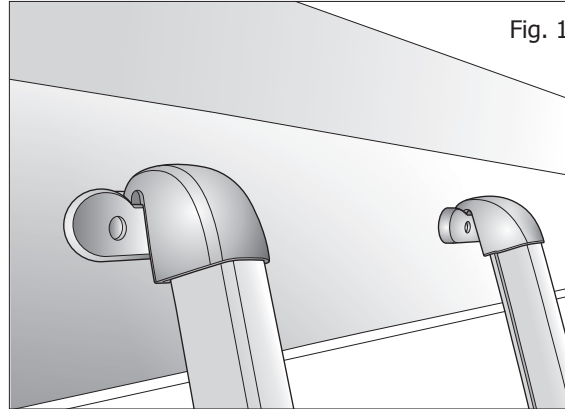

Fig. 1
- To access the upper beds, hook the ladder (Fig. 1) to supports **A** located on the front of the area you want to access (Fig. 2).